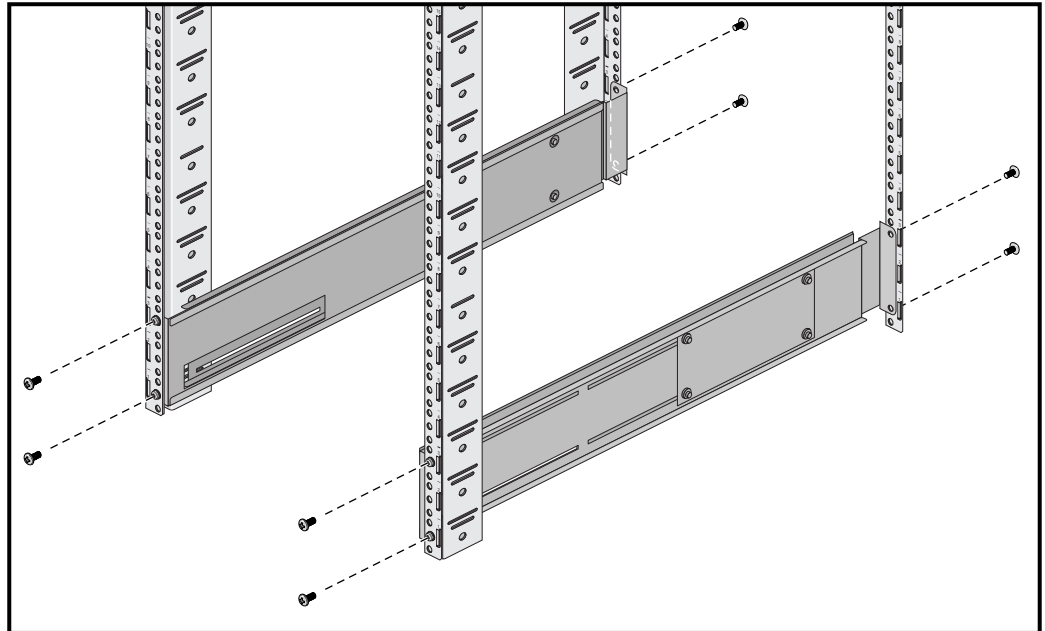

Figure 7-2 Attach Outer Mounting Rails to Rack Vertical Rails
4. Confirm that both rails are evenly aligned vertically within the rack before tightening all the screws. See Figure 7-2 for an example.